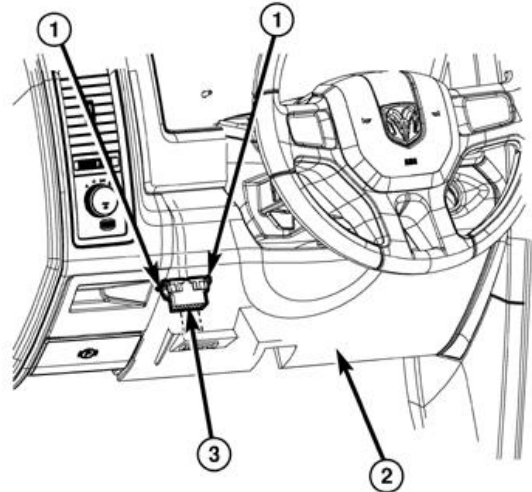

Figure 9 – Data Link Connector
20. Remove the Data Link Connector (3) from the steering column opening cover (2) by pressing in the tabs (1) and pushing the connector through the opening on the back side of the cover (Figure 9).
9. Install the Data Link Connector (3) to the steering column opening cover (2) through the opening on the back side of the cover (Figure 9).